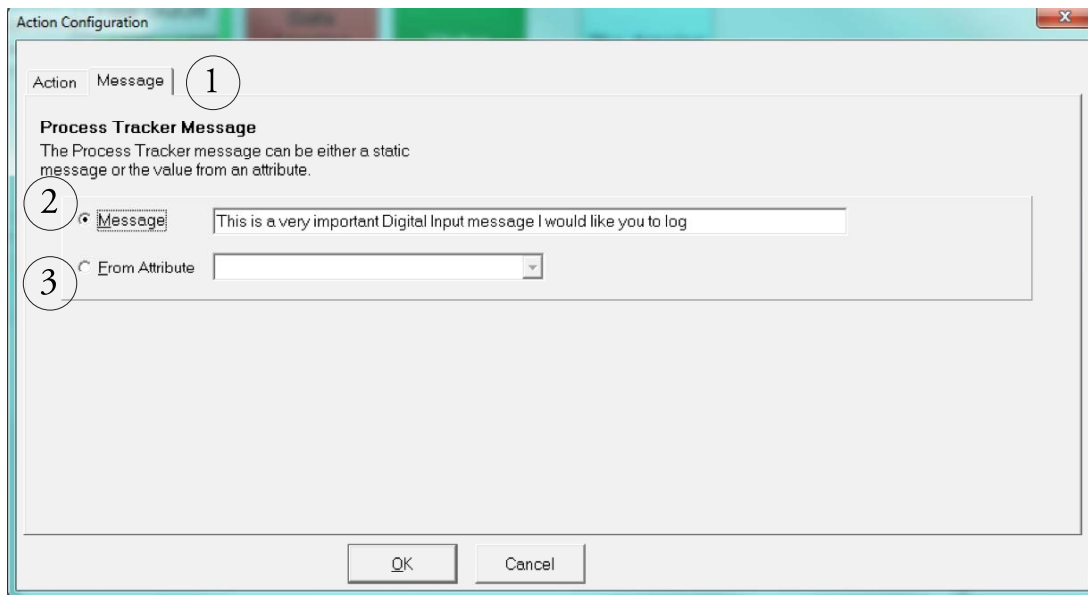

Figure 33. Process Tracker: Log Message.
- 1.2 Select the Flaw Event tab (*Part 1 in Figure 33*).
- 1.3 In the box for Flaw Event Description, enter your desired text (*Part 2 in Figure 33*).
- 1.4 If you want a measurement value to show up in the flaw report next to your triggered flaw event, select it from the drop-down list under Associated Measurement Value (*Part 3 in Figure 33*).